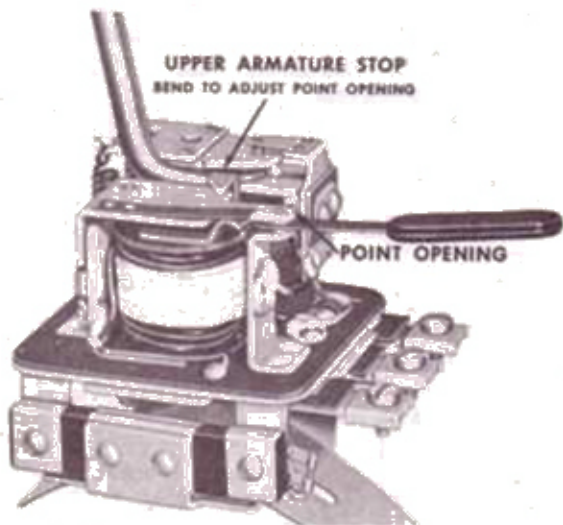

Figure 9—Cutout relay point opening check and adjustment (1118200 series). Battery must be disconnected when this check is made.
**POINT OPENING (1118200 Series)**—Check point opening and adjust by bending the upper armature stop (Fig. 9).